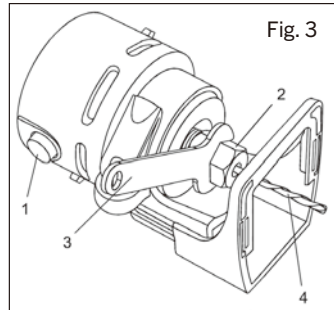

Fig. 3
1. Depress the shaft locking button (1) and rotate the collet lock nut (2) with the other hand until the locking button drops into place, preventing the shaft from turning (Fig. 3).
2. While continuing to hold the shaft locking button IN, use the collet wrench (3) to turn the collet nut counter-clockwise. Loosen the collet nut two or three turns.
4. Insert the new cutting bit (4) into the collet.
3. Install cutting bit in the collet as shown in Fig. 3.